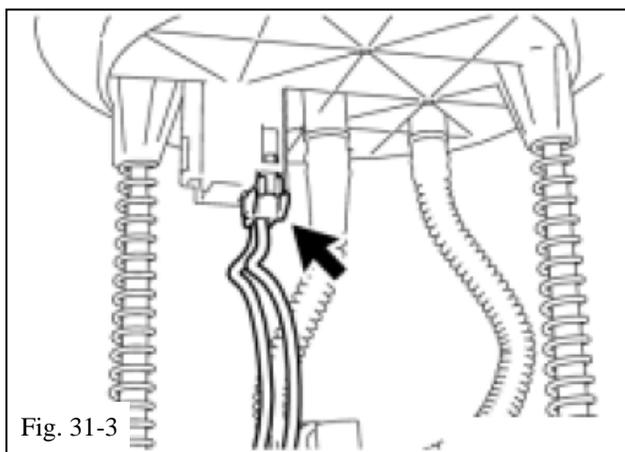

Fig. 31-3
- (c) Disconnect the fuel pump connector (Fig. 31-3).